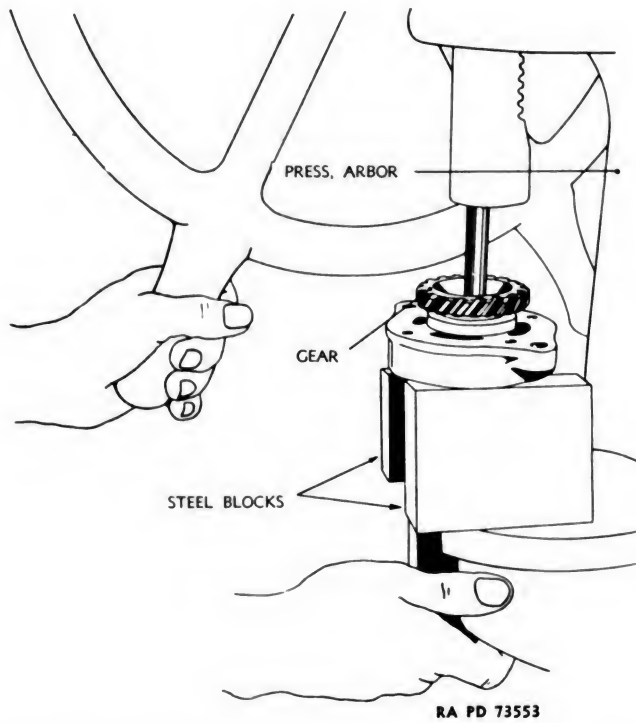

Figure 110 — Pressing Governor Drive Gear from Shaft
- (1) Release tension from governor spring by loosening holding cap screw and lock nut. Remove shoulder screw, and remove spring.
- (2) Remove the four screws holding body to flange, and separate.
- (3) Take out the three round-head screws and washers inside the flange holding the bearing retainer to the flange.
- (4) Punch groove pin out through gear and shaft. Press gear from shaft (fig. 110). The bearing will be forced out of the casting seat in this operation.